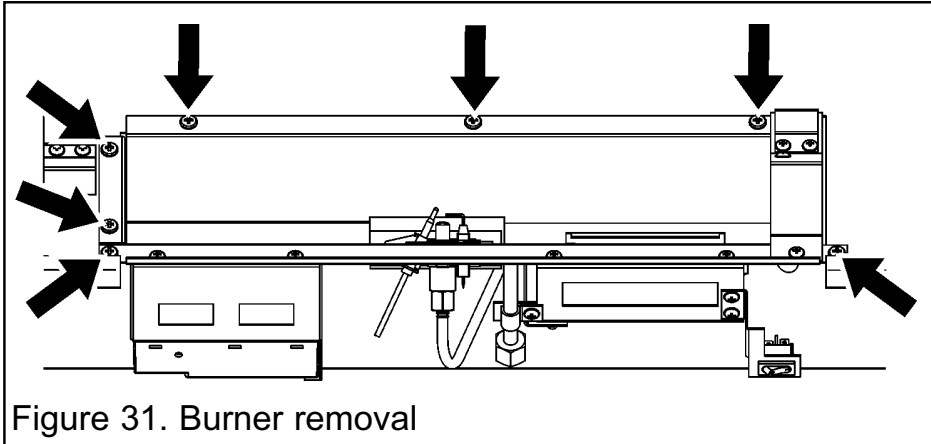

Figure 31. Burner removal
4. Unscrew and remove the seven screws from the top of the burner (See figure 31).
4. Detach the thermocouple by unscrewing the thermocouple nut at the interrupter block (See figure 31).